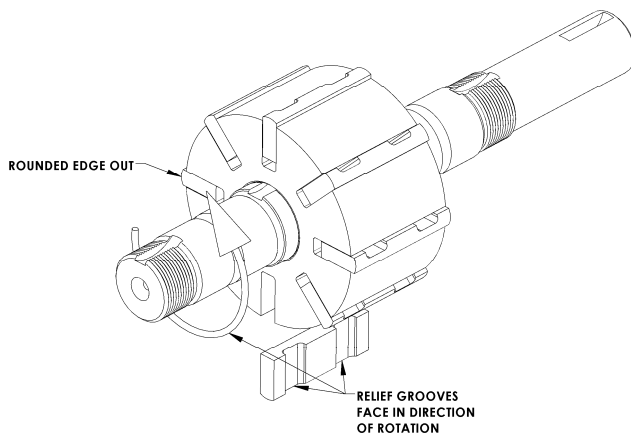

Figure 6 – Vane Replacement
3. Turn the shaft by hand until a vane (14) comes to the top (12 o'clock) position of the rotor. Remove the vane.
4. Install a new vane (14), ensuring that the rounded edge is UP, and the relief grooves are facing towards the direction of rotation. See Figure 6.
3. Without installing the head O-ring (72) or mechanical seal components, temporarily attach the outboard head (20) and bearing (24) to the casing (12). Install and hand-tighten two head capscrews (21), 180 degrees apart. This head will be used to hold and align the rotor and shaft (13) while the inboard side of the pump is assembled. **NOTE: It is a good practice to attach pump heads to the same ends they were removed from.**
4. Before installing the rotor & shaft assembly (13), the direction of pump rotation must be determined as follows: If the pump is to be **right-hand** with **clockwise** rotation, the intake port and the relief valve must be on the **right** with the drive end of the shaft pointing towards the observer. If the pump is to be **left-hand** with **counterclockwise** rotation, the intake port and the relief valve must be on the **left** with the drive end of the shaft pointing towards the observer.
5. Remove the vanes (14) and push rods (77 - if equipped) from the rotor and shaft assembly (13). Inspect for wear and damage, and replace as follows:
- a. Insert the vanes (14) into the bottom rotor slots with the relief grooves facing in the direction of pump rotation, and with the rounded edges outward. See Figure 6.